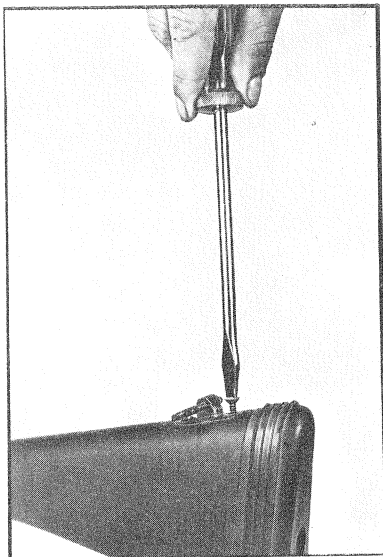

Fig. 108
a) **Rear sling swivel.** — Unscrew both screws of rear sling swivel base (fig. 108).